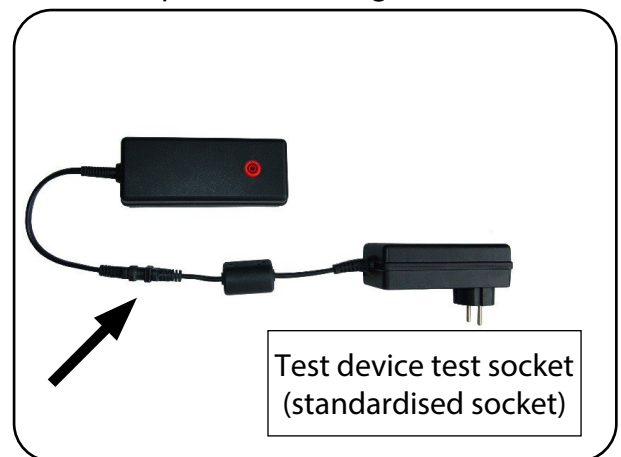

Fig. 19.01 – Connecting the mains adapter to the adapter and the test device
- Plug the AC connector of the mains adapter into the test socket of your leakage current testing device (Fig. 19.01).
- Connect the DC connector of the adapter to the DC output of the mains adapter (Fig. 19.01).